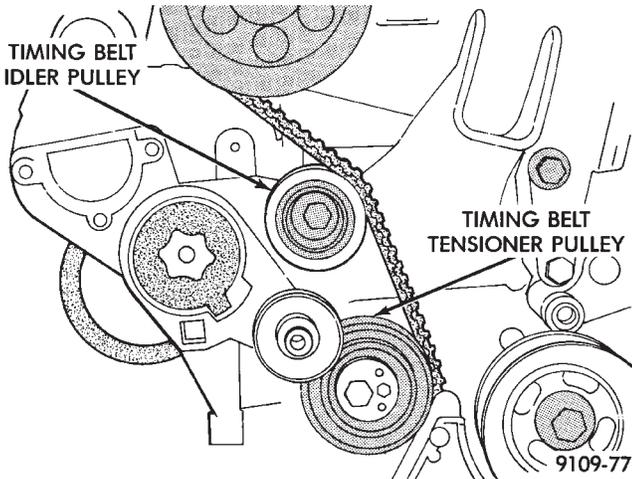

Fig. 12 Power Steering Pump Bracket and Timing Belt Idler Bolt
(5) Loosen timing belt tension. Refer to Camshaft and Crankshaft Timing Service for procedure. Remove timing belt idler pulley bolt (Fig. 12).
- (3) Tighten timing belt idler pulley and tighten to 54 N·m (40 ft. lbs.) (Fig. 12).